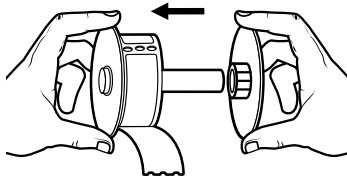

Figure 9
- 4 Place the spool guide on the right side of the spool and adjust it to fit snugly against the roll. See Figure 9.